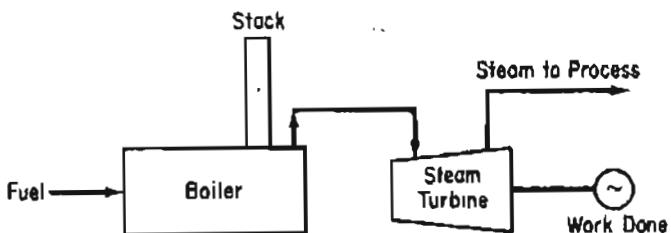

Figure P24.7
- Cogeneration (generation of steam both for power and heating) involves the use of gas turbines or engines as prime movers, with the exhausted steam going to the process to be used as a heat source. A typical installation is shown in Figure P24.7.